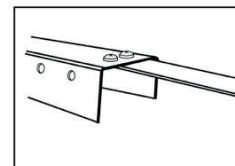

Fig. 9.
Note that the support must be attached to the lower profile part (4), Fig. 9. so that the bolt heads are on the upper side of the profile and the nuts are on the lower side of the profile.